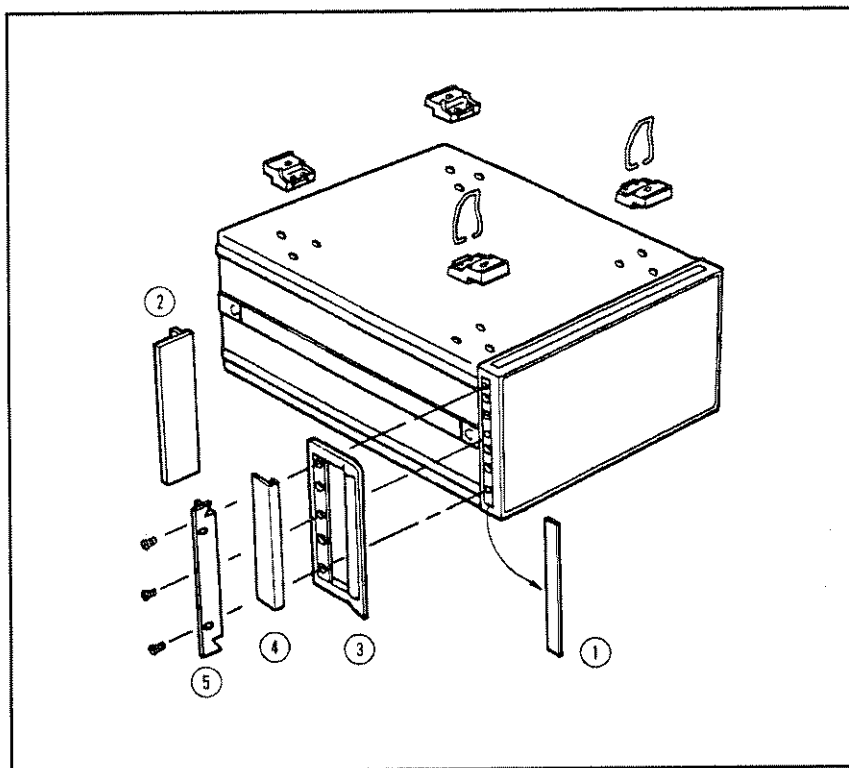

Figure 3-2. Rack Mount Kits Installation
The analyzer can be rack mounted and used as a component in a measurement system. Figure 3-2 shows how to rack mount the HP E5100A/B.
1. Remove the adhesive-backed trim strips ① from the left and right front sides of the HP E5100A/B. (Refer to Figure 3-2.)
2. Attach the front handles ③ to the sides using the screws provided.
3. Attach the trim strips ④ to the handles.
2. Attach the rack mount flange ② to the left and right front sides of the HP E5100A/B using the screws provided.
2. Attach the front handle ③ and the rack mount fringe ⑤ together on the left and right front sides of the HP E5100A/B using the screws provided.